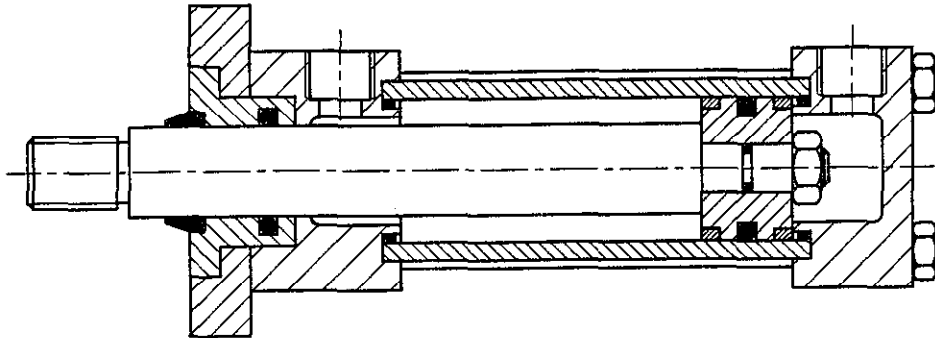

FIG. 4
4. (a) A sectional view of a hydraulic cylinder, showing the piston rod in the fully retracted position, is shown in Fig. 4.
- (iii) Identify and neatly label on the sketch the following parts; Piston, Piston rod, Guide bush, Tube, Oil port (2), Guide ring (2), Wiper, Rod seal, Piston seal, Tube seal (2).